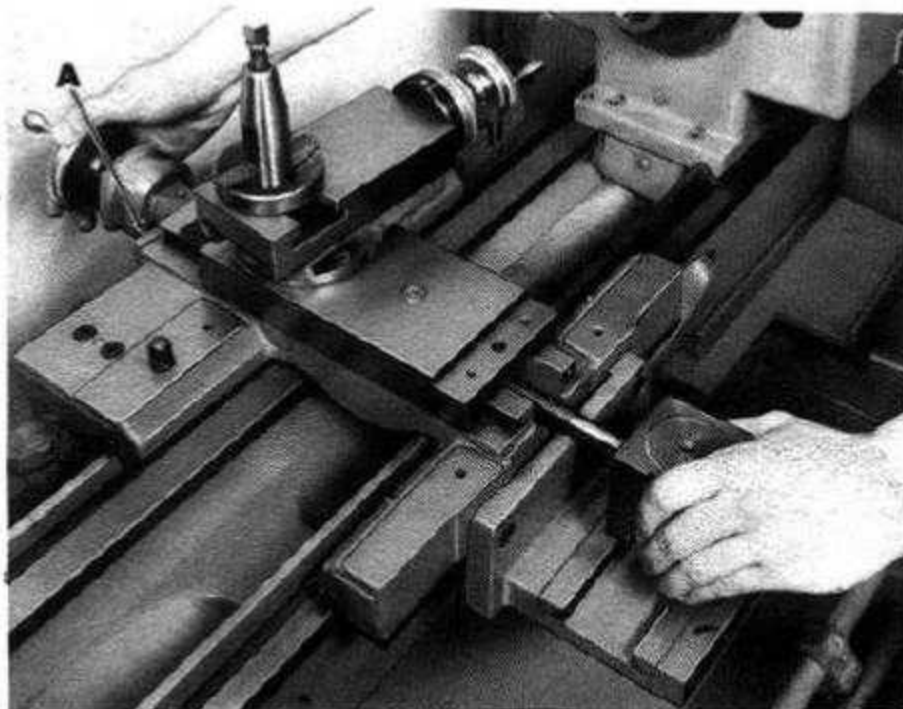

Figure 5
9. Slide the new cross slide screw assembly (A, fig. 5) into carriage and turn clockwise so the splines mesh with those in the splined screw. When the splines mesh, push the assembly all the way in and mount bracket to carriage with two soc. cap screws.